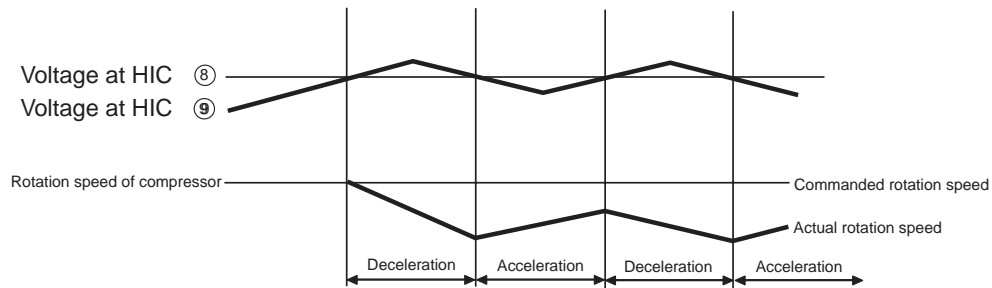

Fig. 8-7
①. Overload external judgement circuit
- The filter consisting of R320 and C1 removes high harmonic components from the voltage generated by the current flowing to R806, R2 and C304 average the voltage. This voltage is then input to OP1 pin ⑤ and amplified and is supplied to micro computer pin ⑫ which is compared with the voltage at pin ⑬. If the voltage at pin ⑫ is higher than that at pin ⑬, the micro computer enters the overload control mode.
- Fig. 8-7 shows the rotation speed control. When the voltage at pin ⑨ of HIC exceeds the set value at pin ⑧ of HIC ⑧, the micro computer decreases the rotation speed of the compressor and reduces the load regardless of the rotation speed commanded by the indoor micro computer.